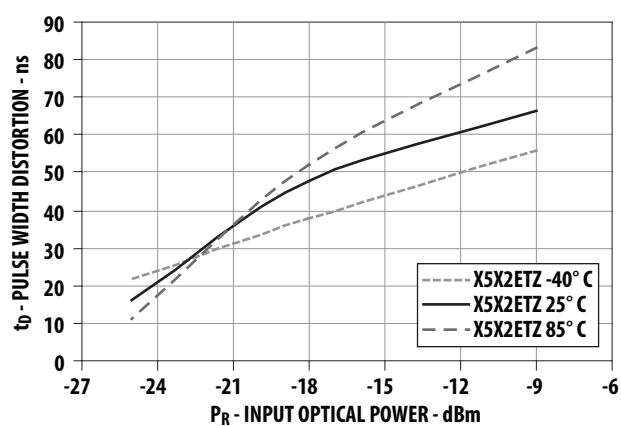

Figure 11. Typical link pulse width distortion vs. optical power
- The LED drive circuit of Figure 11 is required for 1 Mb/s operation of the HFBR-25X2ETZ.